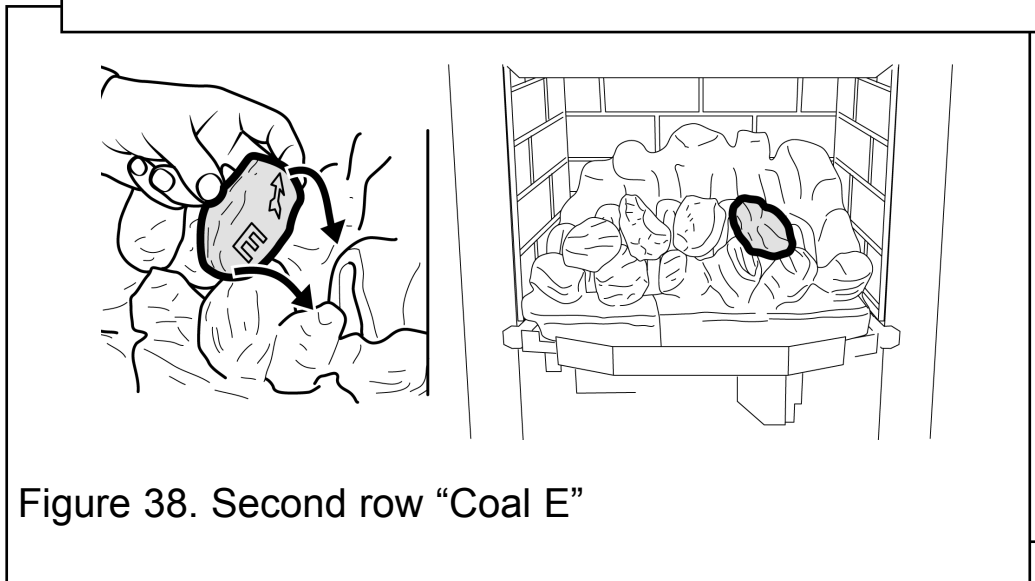

Figure 38. Second row "Coal E"
**12.** Hold coal 'E' upright with the arrow pointing to the top. Locate coal 'E' as shown in figure 38.